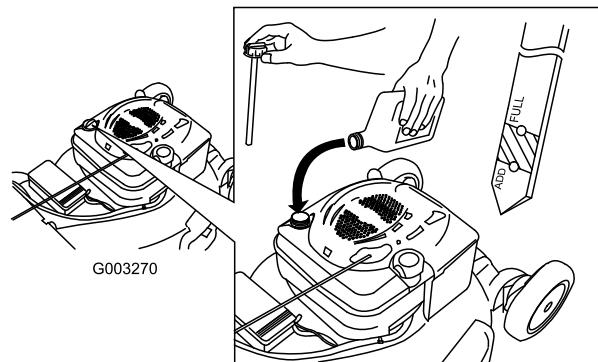

Figure 39
4. Slowly pour oil into the oil fill tube until the oil level reaches the Full line on the dipstick (Figure 39). **Do not overfill.** (Max. fill: 20 oz. (0.59 l), type: SAE 30 detergent oil with an API service classification of SF, SG, SH, SJ, SL, or higher.)